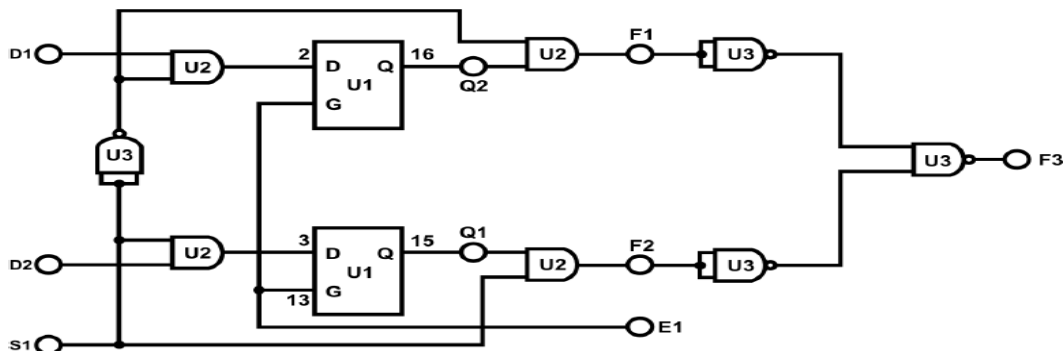

Figure 7.6: RAM block with D Flip-Flop of module KL-33010.
A) Block g of module KL-33010 which is shown in Figure 7.6 will be used in this part.